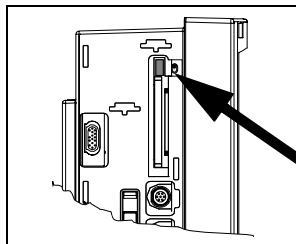

Figure 1-4 Boot Switch
Use this procedure ONLY as a backup, in the event the normal procedure should fail to complete properly. The boot switch is located behind the left-hand side panel at the top right of the card slot (see Figure 1-4). The panel is secured to the rear housing by eight locking tabs and a latch.
3. Set boot switch ON (down position). See arrow in Figure 1-4.